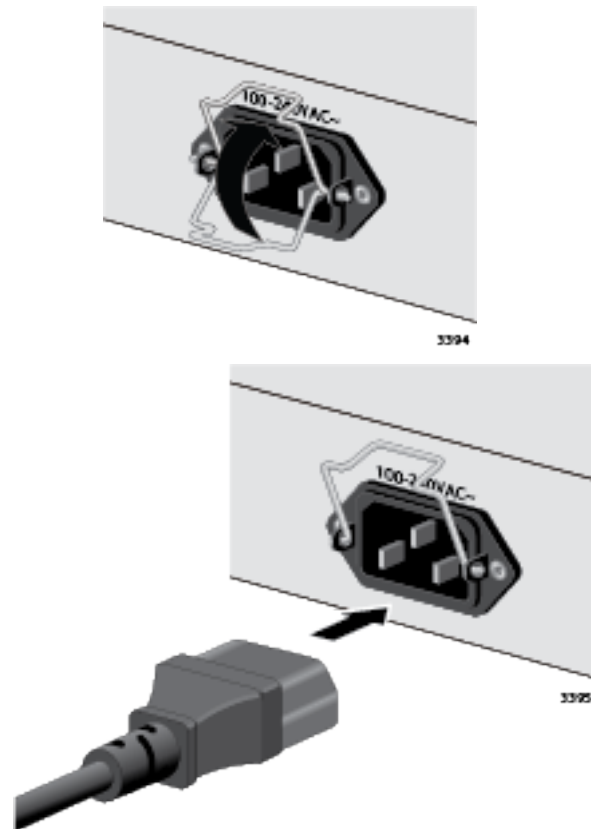

Figure 15. Connecting the AC Power Cord
2. Connect the AC power cord to the AC power connector on the rear panel. See Figure 15.